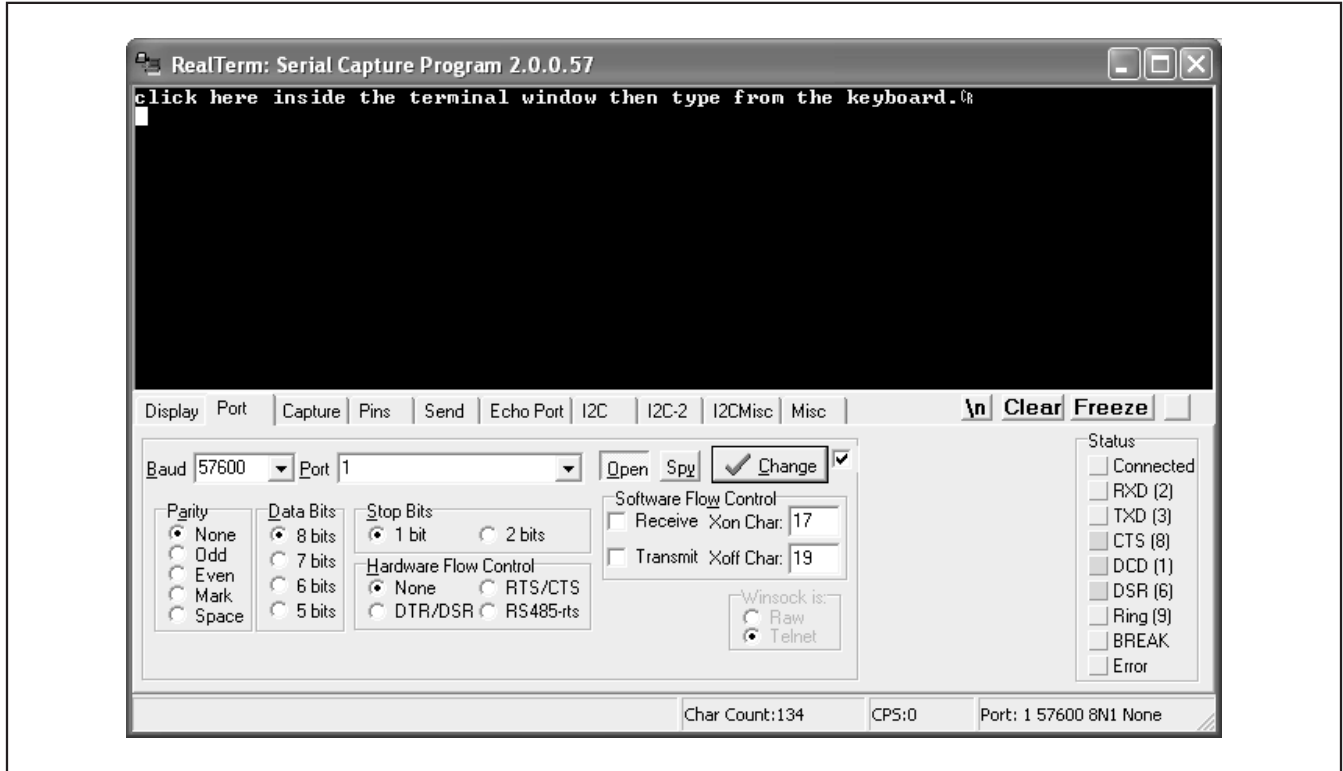

Figure 1. RealTerm Software Main Window (Port Tab Sheet)
- 5) Start the RealTerm software by opening its icon in the **Start | Programs** menu. The RealTerm software main window appears, as shown in Figure 1. **Note:** If the serial cable is connected to a serial port other than COM1, then bring up the **Port** tab and open the corresponding serial port.